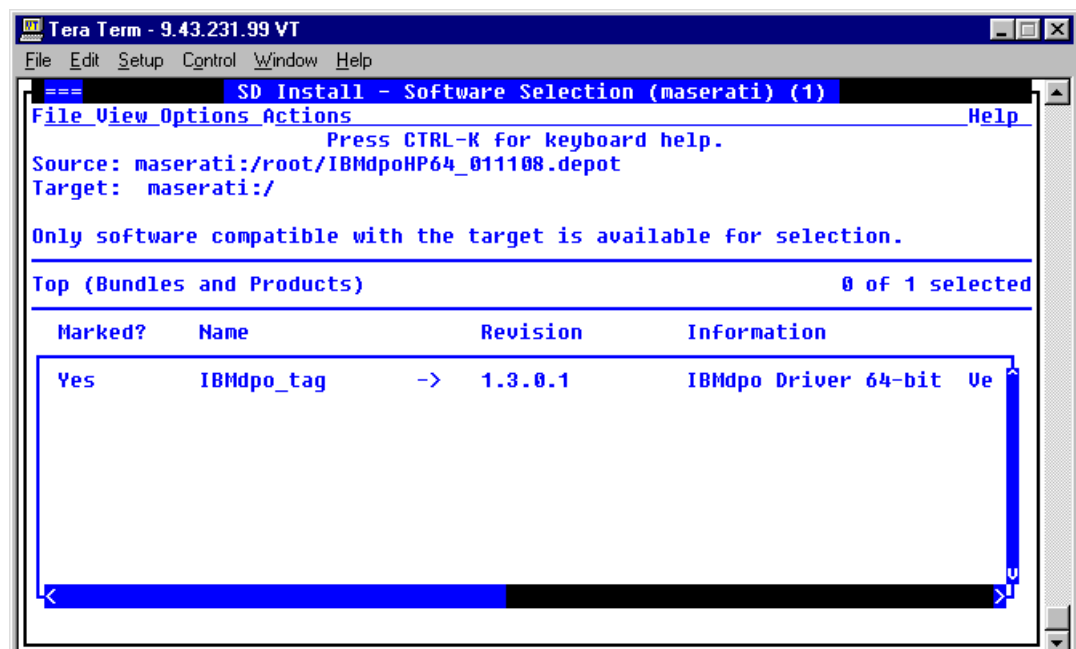

Figure 7-1 Installing SDD window
4. Select the IBMdpo\_tag package using the space bar and press **M**, to mark the item. See Figure 7-1.